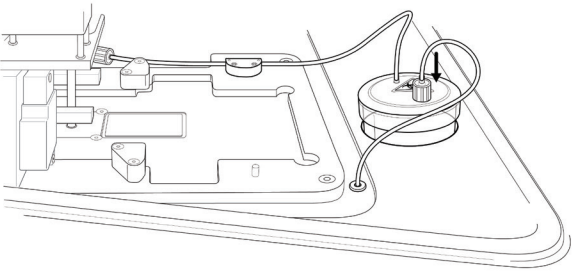

Fig. 17. Attach vacuum tube.
- Attach vacuum tube to the Waste Jar outlet (Figure 17).